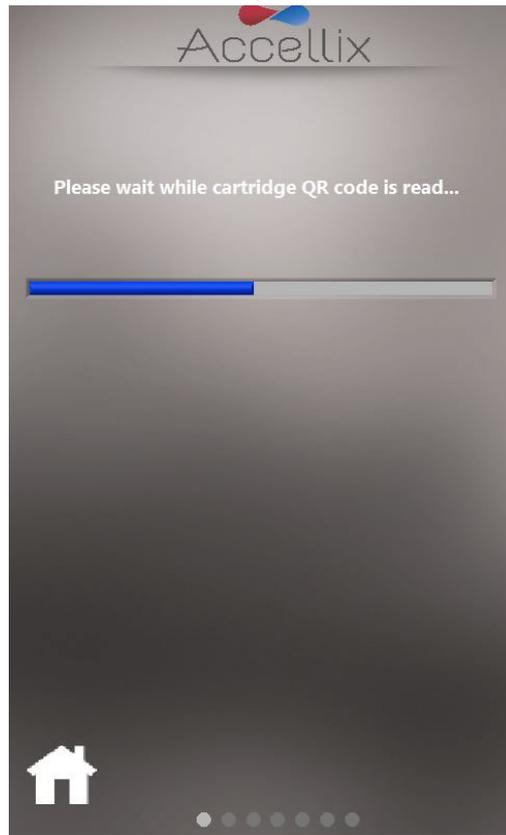

Figure 28: Reading Cartridge QR Code screen
- The screen instructs the operator to wait while the instrument reads and registers the information contained in the QR code on the cartridge (Figure 28).